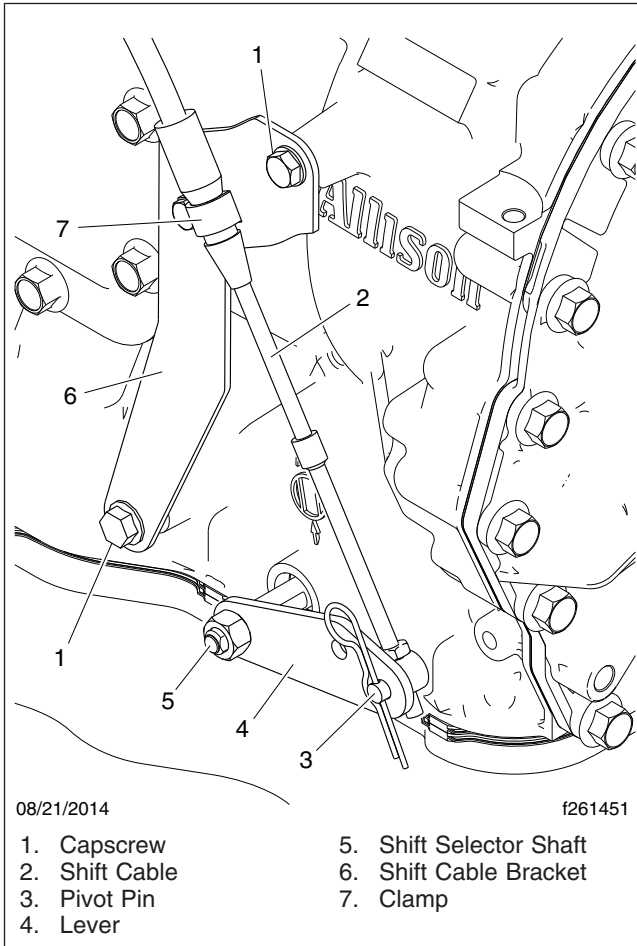

Fig. 1, Existing Shift Cable Installation at the Transmission
3. Remove the two capscrews that attach the shift cable bracket to the transmission, and the nut that holds the transmission shift lever on the shift selector shaft. See Fig. 1.
- Remove the cotter pin, then remove the pivot pin and shift cable from the transmission shift lever. See Fig.1.